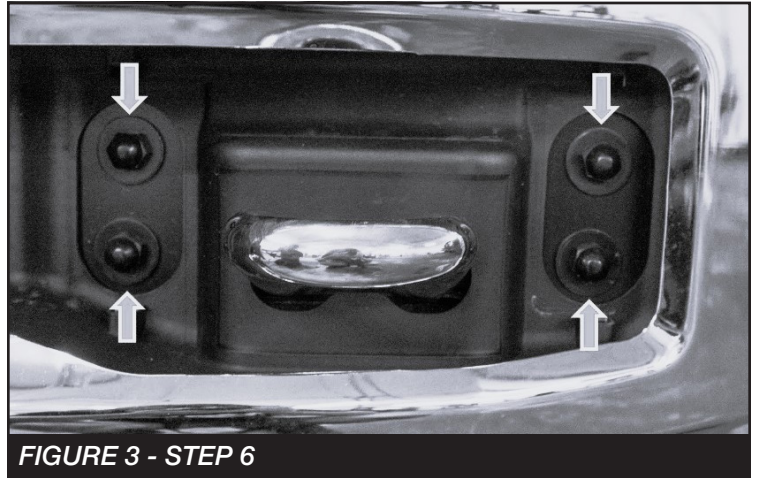

FIGURE 3 - STEP 6
6. Remove the four bolts per side on the front face of the bumper. When removing the bolts, take one out at a time and thread it back into the nut plate while you unbolt the rest. **SEE FIGURE 3**